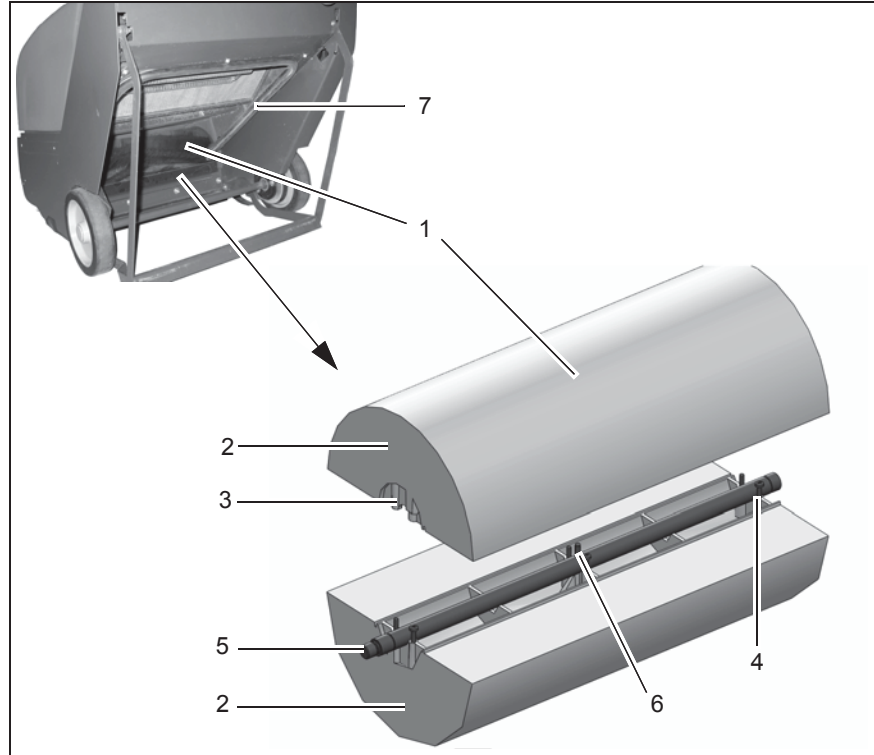

Fig. 20
The brush space with the rotary brush (Fig. 20/1) and seals for the dirt hopper (Fig. 20/7) must be checked daily for signs of dirt and cleaned as necessary.
The rotary brush (Fig. 20/1) must be checked weekly and changed in the case of wear. A new rotary brush has a diameter of 25 cm. When a rotary brush has a diameter of only 20 cm, it must be replaced with a new one.
The rotary brush (Fig. 20/1) is comprised of two rotary brush segments (Fig. 20/2) which are fixed to the rotary brush shaft (Fig. 20/5) by the screws (Fig. 20/4). Pay attention that the bristle pattern on the rotary brush (Fig. 20/1) is always arranged in a V-shape in the direction of driving so that the dirt is guided to the center of the rotary brush.
2. First of all, disassemble the two adjacent rotary brush segments (Fig. 20/2): Loosen the screws (Fig. 20/4) and remove the rotary brush segments (Fig. 20/2).
3. Then turn the rotary brush shaft (Fig. 20/5) 180° by hand and disassemble the two remaining rotary brush segments (Fig. 20/2).
4. Assemble four new rotary brush segments (Fig. 20/2) in the reverse sequence. When doing so, pay attention that the rotary brush segments (Fig. 20/2) are installed on the guide pins (Fig. 20/6) of the rotary brush shaft (Fig. 20/5) and screw to facing rotary brush segments (Fig. 20/2) firmly to each other.
7. After changing the rotary brush (Fig. 20/1), readjust the sweeping pattern as necessary.
In the case of brush wear, and after changing the rotary brush (Fig. 20/1), the sweeping pattern must be readjusted.